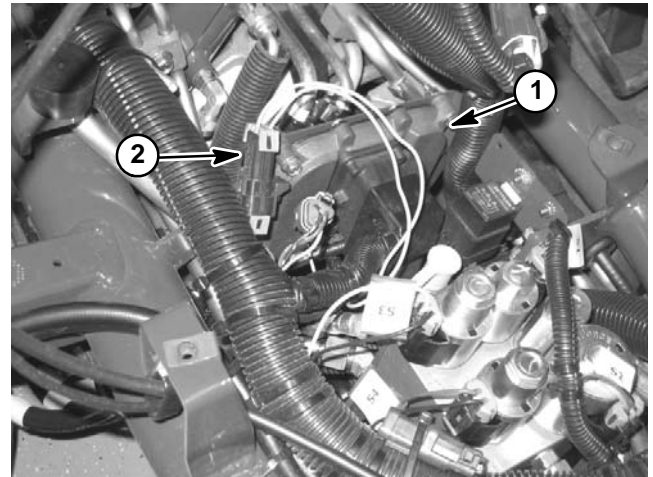

Figure 16
2. Remove right side cover next to operator seat to allow access to access TEC controller. Locate wire harness and connectors near TEC controller. Carefully unplug loopback connector from harness connector (Fig. 16).